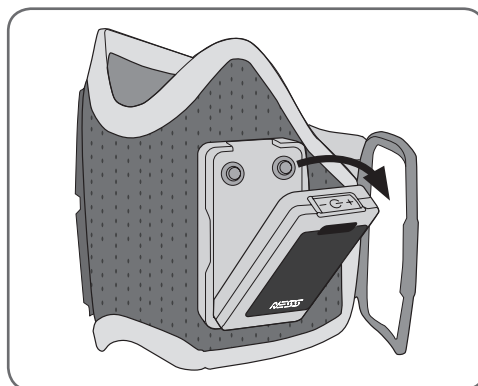

Figure 11-2: Removing the L300 RF Stim Unit.
1. Remove the L300 RF Stim Unit from the cradle. See Figure 11-2.